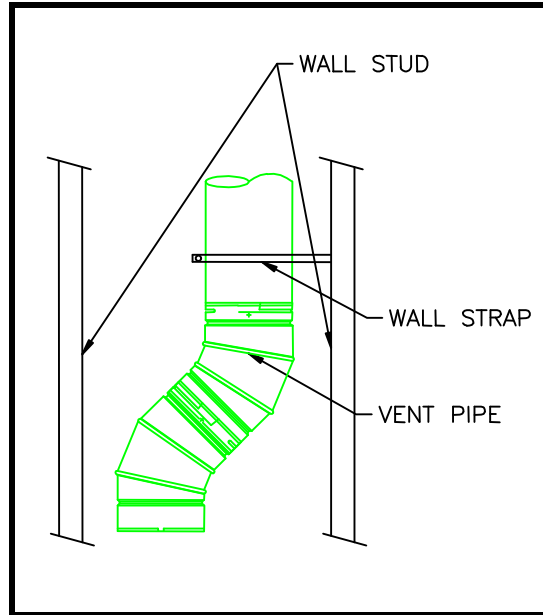

Figure 8: Installing Pipe Supports
1. Attached the first piece piping (elbow or straight pipe) to the pipe connector located above the fireplace. (Secure first section of pipe to damper collar with three (3) Srews).
3. Where necessary add support brackets. Refer to the Figure 8. **Incline runs must be supported every 3 feet.** Vertical runs must be supported every 8 feet, using wall straps. Slip wall straps loosely on to pipe. Attach straps to framing members using nails or screws. Tighten nut/bolt to secure pipe.